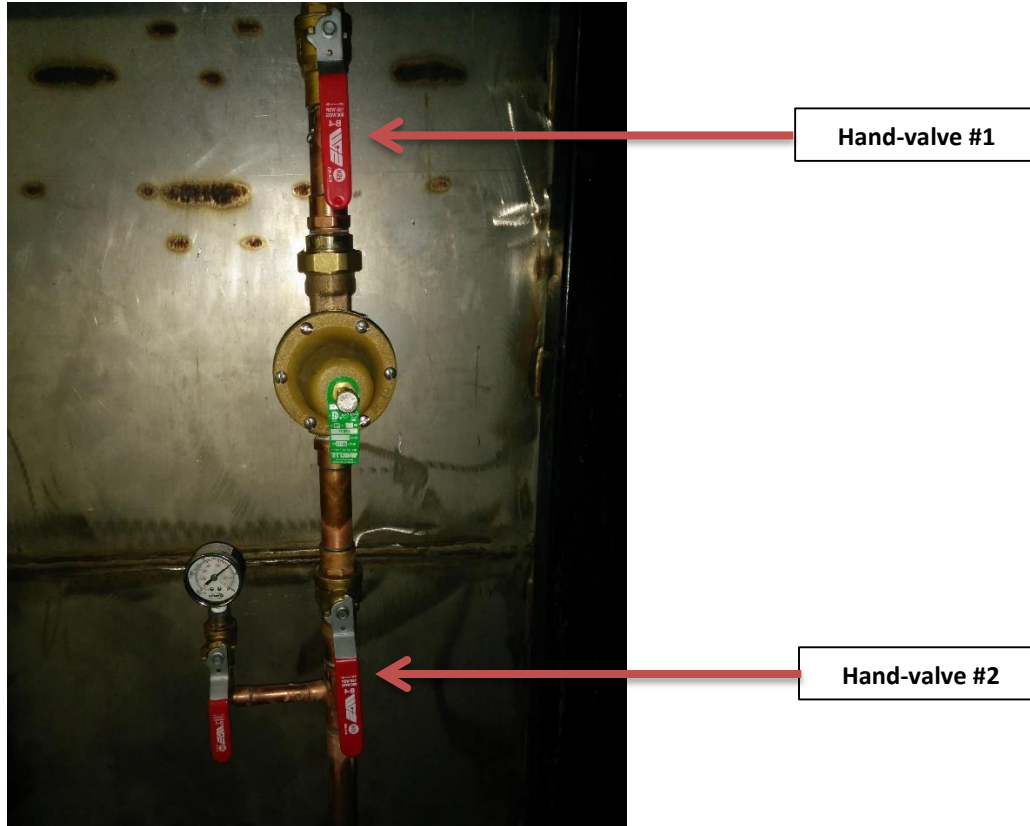

Figure 9: Main cooling water hand-valve
1. In order to isolate the MAGS from the cooling water from the building, close the main water inlet by closing '**Hand-valve #1**' and '**Hand-Valve #2**' as indicated by **Figure 9** below. These are located in the boiler room in the second floor right next to the tank.